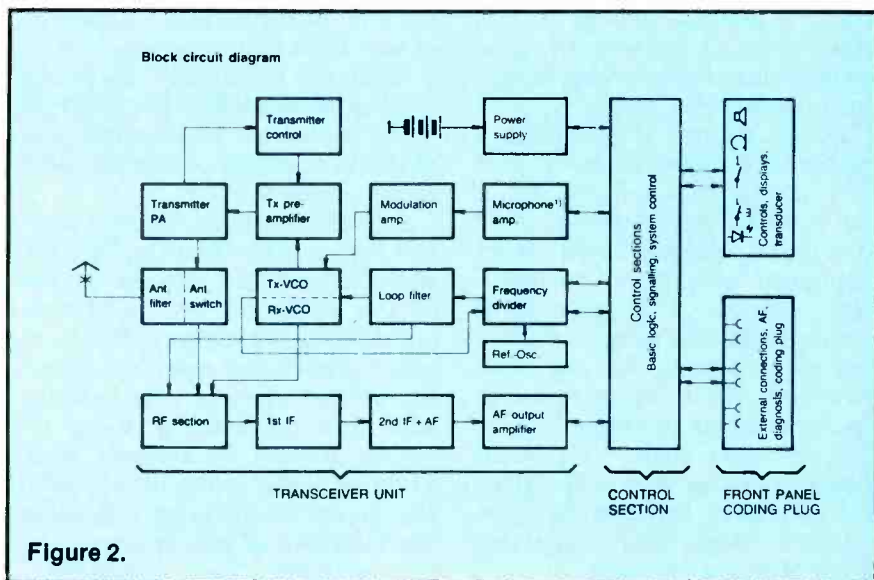

Figure 2.
A conventional 4-diode bridge rectifier (fed by line voltage) and C518A (Figure 2) produce nearly +160V of filtered but unregulated dc voltage. The principal regulator action is the integration of dc-power pulses. SCR513 is forced to conduct the +160V supply to 22 $\mu$ F C518B for varying amounts of time, according to the line voltage and the load on the regulated supply. When the +112V regulated supply drops, the circuit lengthens the conduction time of SCR513 to permit additional current to flow into C518B and thus raise the dc voltage. (For more information on integration of dc pulses, see our May 1985 issue, page 16. The SCR conduction was illustrated on
Two things should be understood about the Figure 2 regulator. Even when SCR513 is conducting, the SCR current does not increase to maximum instantly. Think of R529 plus the inductance of the pin-24-to-pin-22 flyback winding as the resistance leg of a low-pass filter with C518B used as the capacitance leg. According to the theory of filter operation, the SCR513 anode current cannot change rapidly. This is proved by scope waveforms that show the anode current having a sawtooth shape with gradual increase and gradual decrease.
Briefly, SCR513 is gated into anode/cathode conduction by a pulse at its gate, produced by the 3-transistor circuit in Figure 2. Current begins to increase gradually, so if the conduction was permanent, eventually the +112V source has accepted enough current to increase its voltage about 1V, a negative-going horizontal
The +112V source is monitored by the Q500 base voltage (see Figure 2), via the R518/R521/R524 voltage divider. Then R542 and the Q500 collector form a voltage divider between the +25V source and +6.5V at the Q500 emitter, which has its dc voltage stabilized by zener SC521. R545 feeds the Q500 collector dc voltage, which varies inversely with the +112V source, to the Q504 base. To trigger Q502 and SCR513, the Q504 base dc voltage must rise rapidly to the critical point. The rapid rise of Q504 base voltage comes from the sawtooth voltage there. R548 brings in a sample of negative-going horizontal pulses that are integrated by C534 into horizontal-rate sawteeth.
**Figure 2.** A 4-diode bridge rectifier with C518A produces almost +160V that is the input source for the SCR regulator. SCR513 is turned on for varying amounts of time so the +160V source can be fed in slow-buildup dc-current pulses that charge C518B, producing a dc voltage that supplies the horizontal-output transistor. A negative pulse at the SCR513 anode (during retrace time) stops all SCR current at the same time in each horizontal cycle. The three-transistor circuit monitors the +112V source and adjusts the time during each horizontal cycle that SCR513 is gated-on (by a positive pulse through C531). Early gating raises the regulated voltage by allowing current flow for a longer time. Also, positive sections of the pulse waveform at the SCR513 anode are rectified. This produces dc voltage that is stored in C518B, making the regulation more efficient.